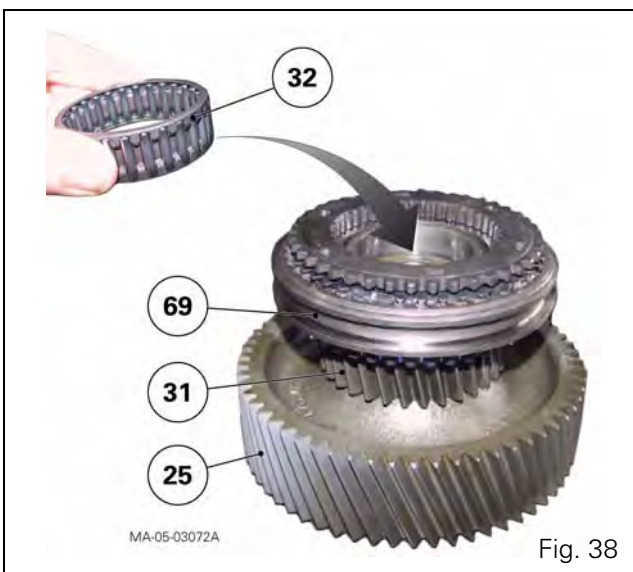

Fig. 38
101. On the pinion (25), refit the pinion (31), its inner surface lightly greased (Fig. 38).
102. Reassemble the synchroniser (69) on the splines of the pinion (25) (Fig. 38).
104. Fit the pre-greased bearing (32) (Fig. 38).